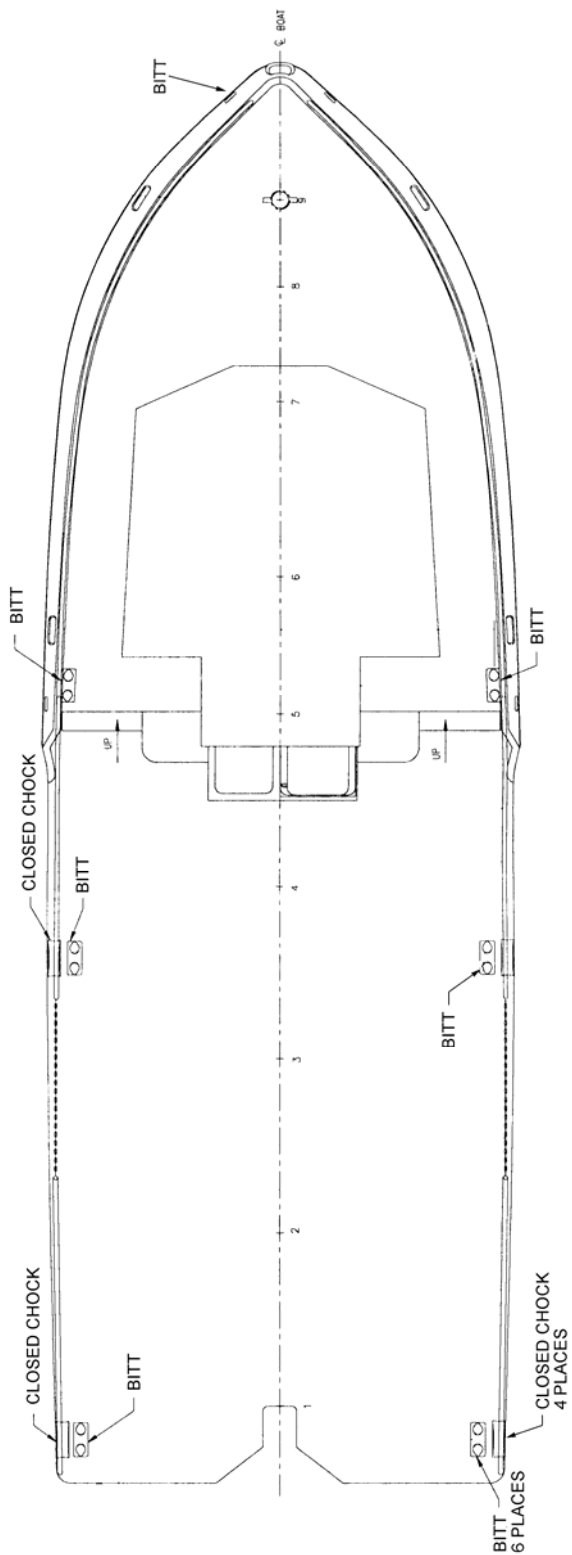

Figure 2-18
E.7. Location Nine closed chocks and seven double bitts are located around the deck edge of the hull at the following locations: **(See figure 2-18.)**
- One (1) closed chock set into bulwark, centerline at the bow
- One (1) double bitts on main deck, portside forward
- Two (2) closed chocks set into bulwark, port and starboard, forward of the pilothouse doors
- Two (2) closed chocks, port and starboard, side deck near transom
- Two (2) closed chocks, port and starboard, main deck edge, forward of the chain lifelines
- Two (2) double bitts on the foredeck, port and starboard, just aft of the pilothouse doors
- Two (2) double bitts on the main deck, port and starboard, forward of the chain lifelines
- Two (2) double bitts on the main deck, port and starboard, on the side near the transom